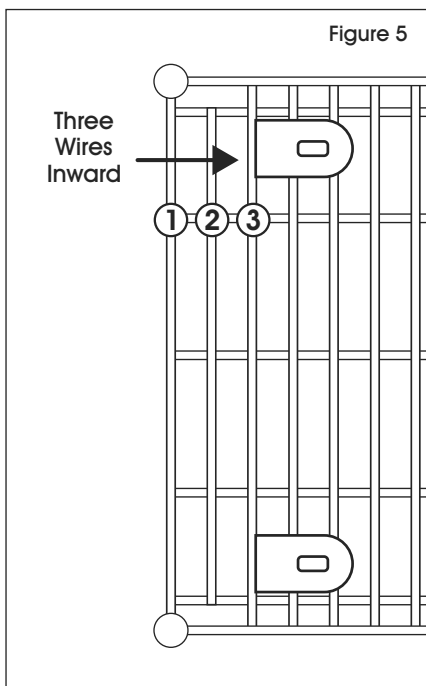

Figure 5
NOTE: The slide can be placed in any location as long as it is at least three wires inward. (See Figure 5)
2. Maneuver the L-brackets up and under the wire so that the L-bracket is resting on top of the shelf. (See Figure 5)
NOTE: Ensure first slide has the L-brackets pushed against the shelf wire behind it. (See Figure 5)